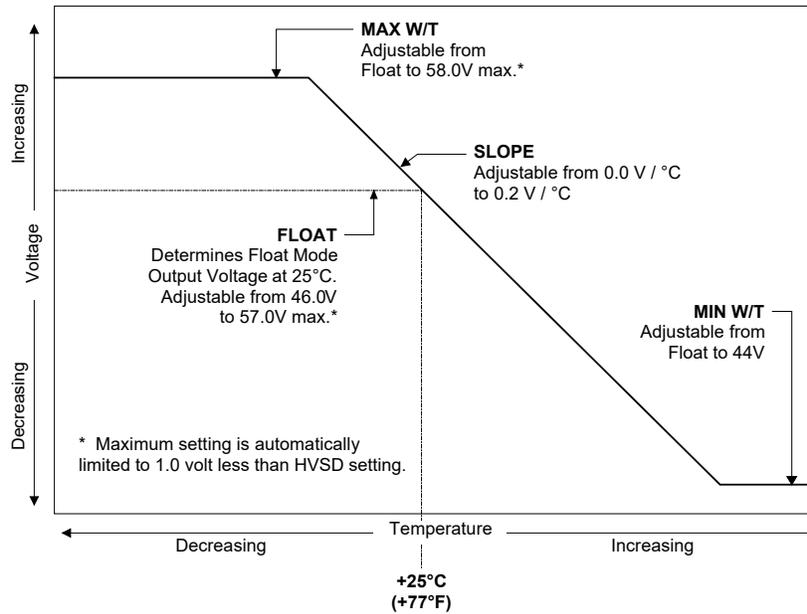

Figure 1
- ◆ Temperature Curve: Refer to Figure 1.